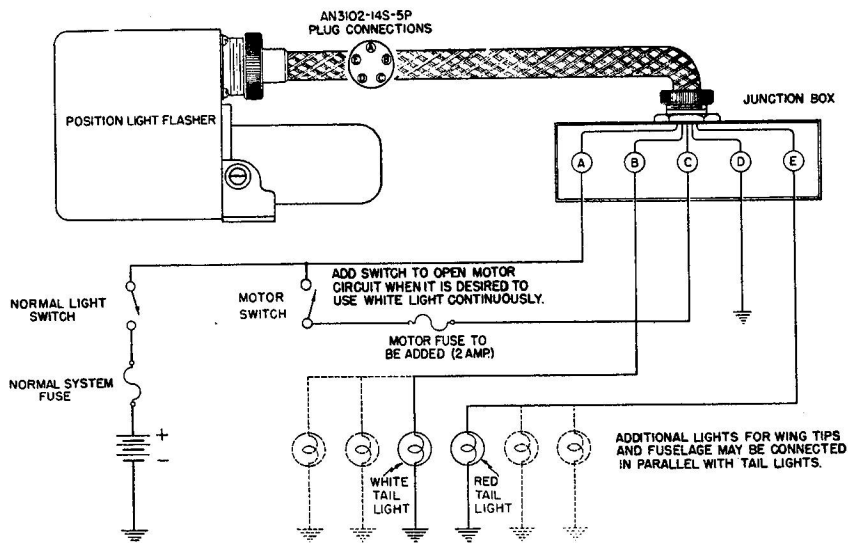
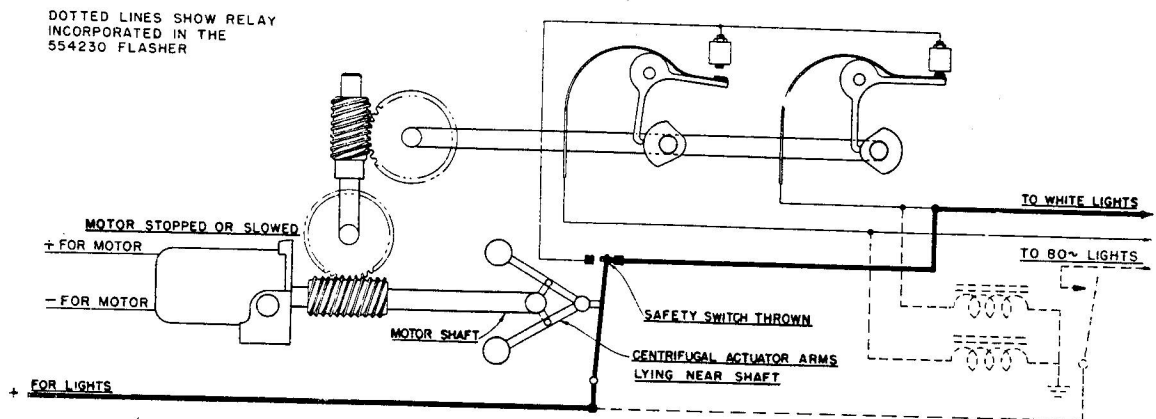

Figure 3-2 - Installation Diagram - Flasher Assemblies 450250-0-3 And 450350-0-3
Figure 4-4 - Position Light Flasher, Functional Diagram Showing White Light On Continuously, Assemblies 450250-0-3, 450350-0-3 And 554230
Electrical - Assemblies 450250-0-3, 450350-0-3 and 554230. (Figure 3-2.)
3. When an installation is made in an air-plane having a single white tail light, it will be necessary to add a red tail light and run a supply lead to the junction box. As the motor current is very small compared with the lamp currents, a separate two-ampere motor fuse should be installed in any convenient location, generally in the main fuse box, and a lead for the motor supply run to the junction box. These connections are shown in figures 3-2 and 3-3. When it is desired that the pilot be able to select be-
tween flashing lights or continuous white lights, install a separate motor switch in the motor supply lead at a convenient location. This type of installation is shown in figures 3-2 and 3-3. If it is desired that the lights always flash when they are on, follow the wiring in figures 3-2 and 3-3, but replace the motor switch with a jumper wire.
the power circuit. (The circuit for Assembly Numbers 450250-0-3, 450350-0-3, and 554230 is shown in figure 4-4.) This is a safety provision which serves in case of failure of the motor. It is also possible to utilize this device to manually switch the white light circuit on continuously, if an additional switch is installed, (figure 3-2) enabling the pilot to stop the motor whenever he desires.